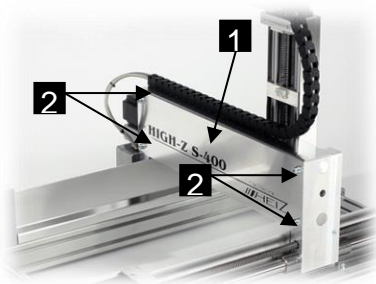

Fig. 29: Cover Y-axis
- 2 Loosen and remove the four screws (Fig. 29/2).
- 3 Remove the cover (Fig. 29/1) on the Y-axis.